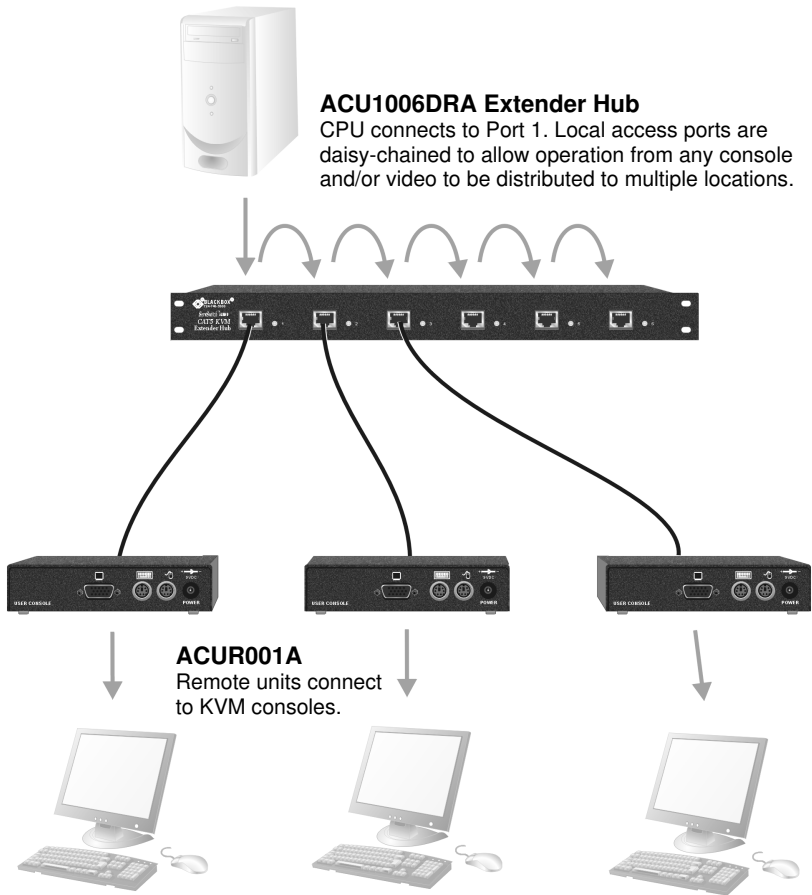

Figure 15 Information distribution system sharing a single PC
- Information distribution system sharing a single PC at up to six remote locations (Figure 15).